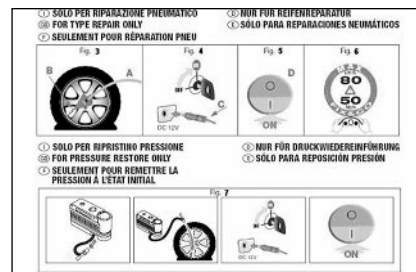

fig. 13
- instruction brochure (see **fig. 13**), to be used for prompt and proper use of the quick repair kit and to be then handed to the personnel charged with handling the treated tyre